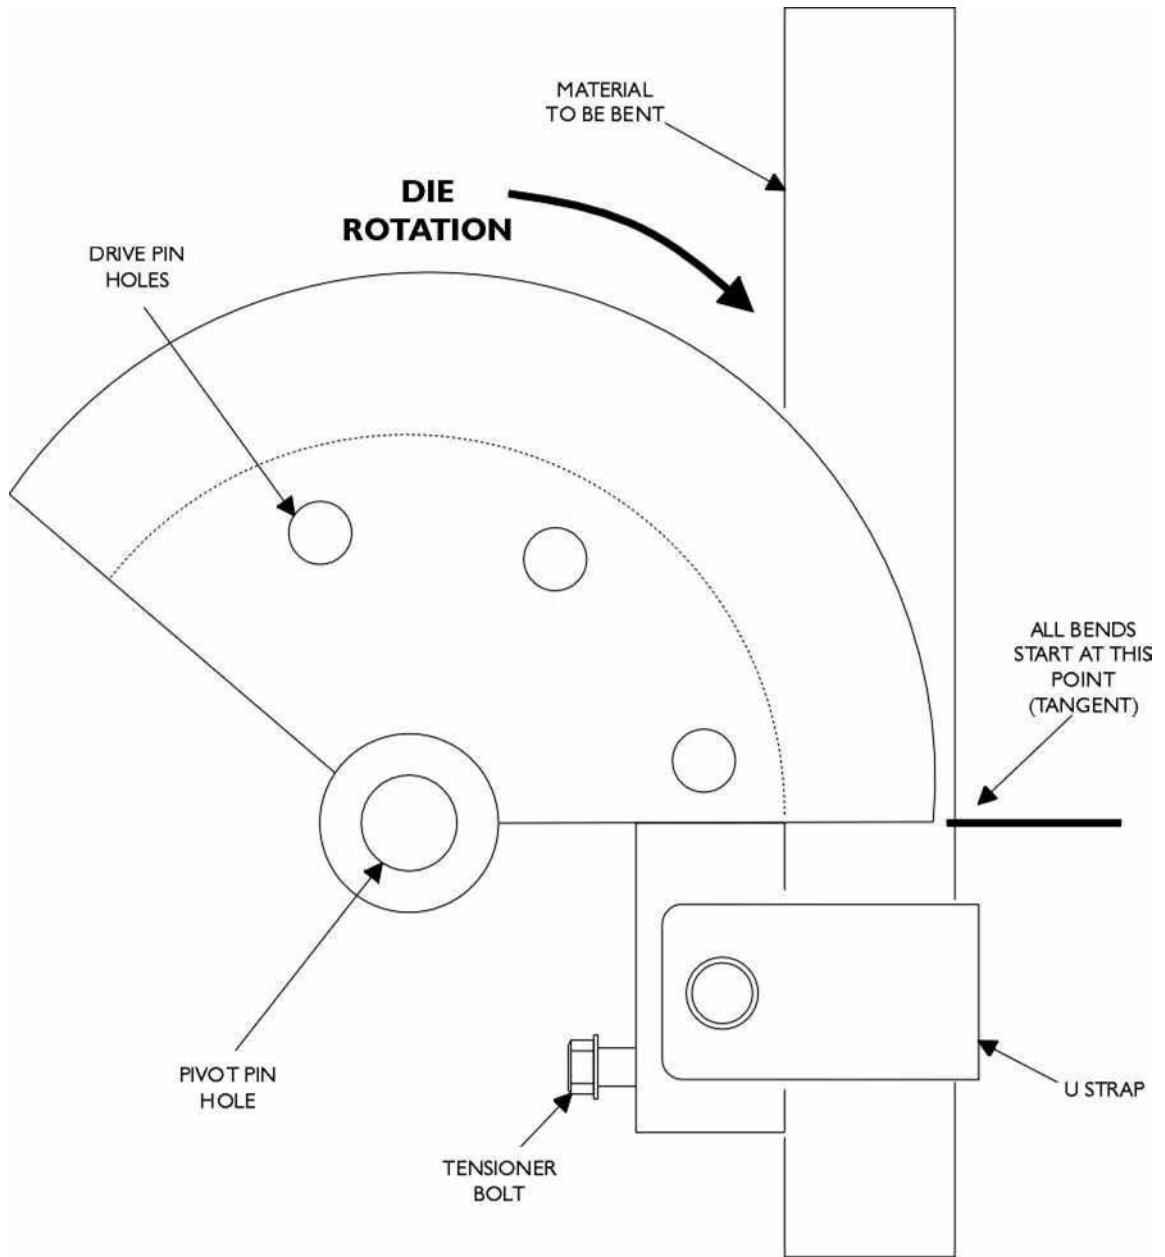

Figure 2. Bends start at edge of radius die.
5. Pass tube into die and position as required for start of bend. All bends will start at the edge of the radius die as shown in Figure 2.